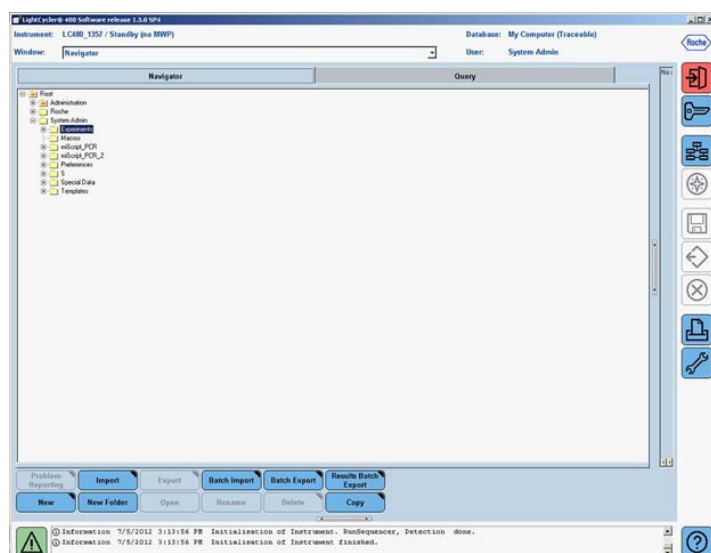

Figure 7. Opening a completed run file.
22. In the Navigator window (Figure 7), find and open the run file to be analyzed.